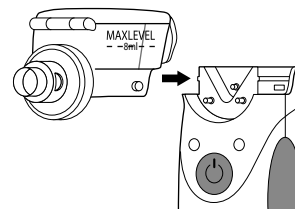

Fig.4
1. Insert the inhalation chamber into the slots at the top of the main unit until it clicks (Fig. 4).